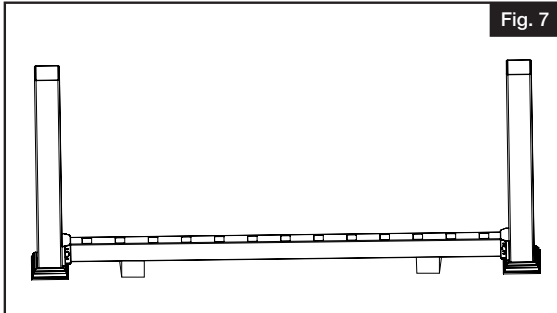

Fig. 7
- Slide bottom rail in between posts and rest on top of wood spacer blocks (Fig. 7).